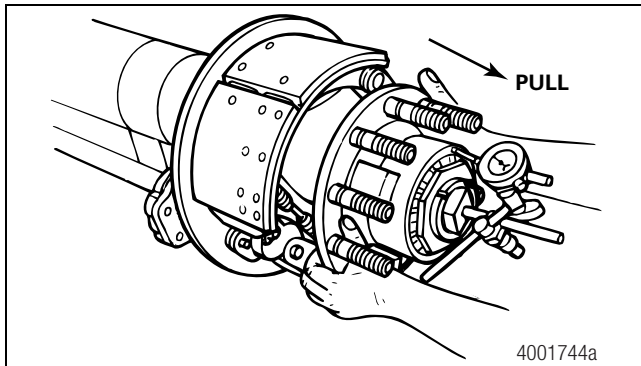

Figure 13.30
3. Pull OUTWARD until the dial indicator does not change. Figure 13.30. The difference between pushing INWARD and pulling OUTWARD is end play.